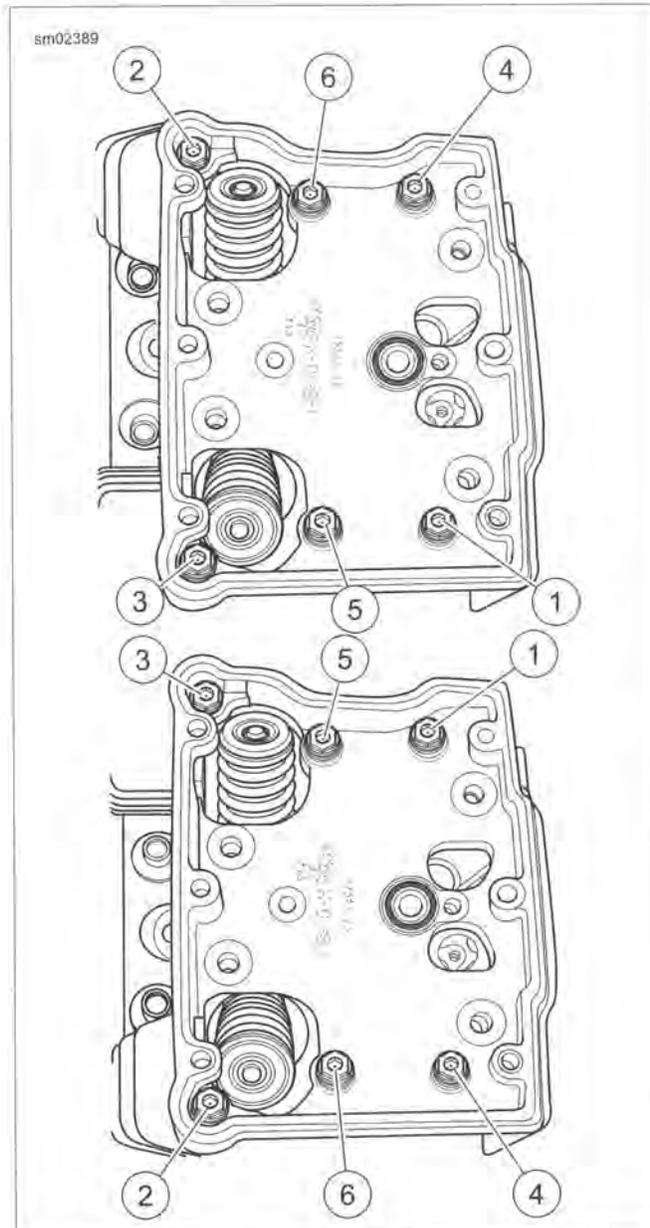

Figure 3-21. Rocker Housing Bolts Removal Sequence
1. See Figure 3-21. Following the sequence shown, loosen the six rocker housing bolts. Remove rocker housing bolts.